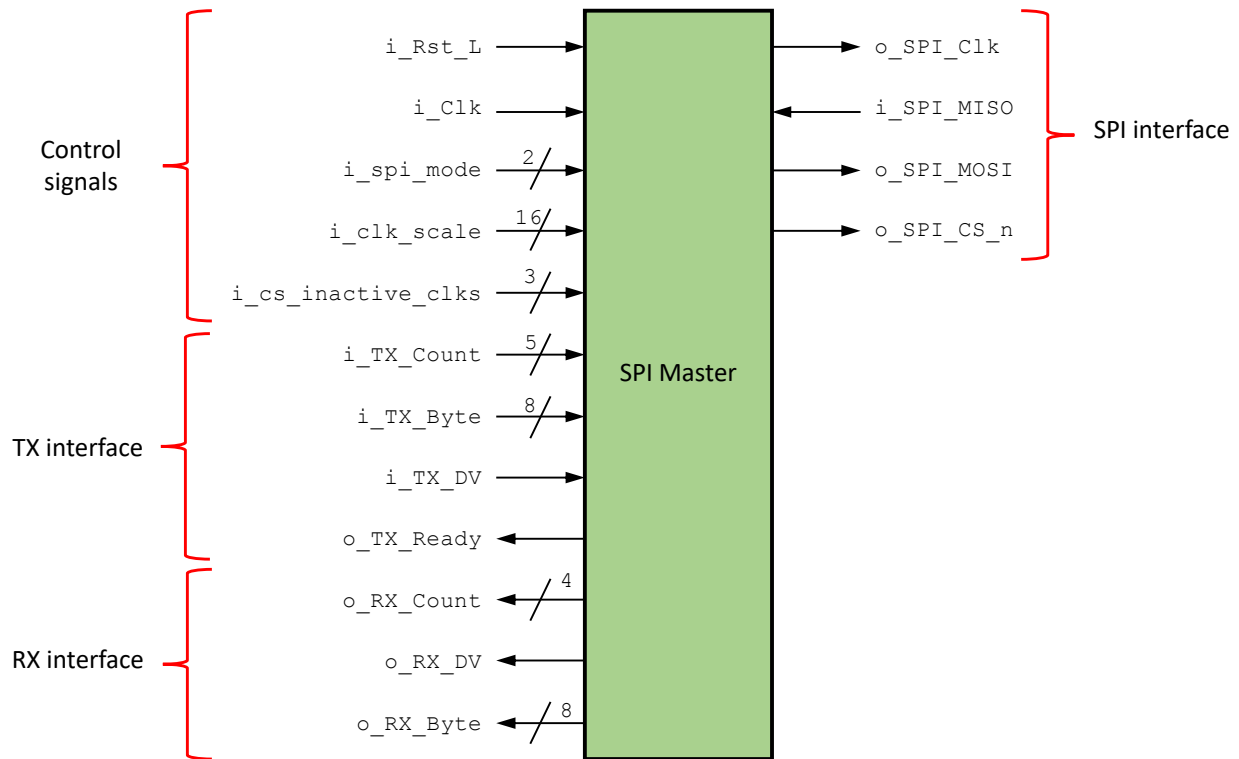

Figure 5: SPI Master
In this project, we will package a SPI master as an AXI-Lite IP block, and we will use it to interface with a 3-axis accelerometer. Figure 5 is a block diagram of the SPI master, which includes four signal groups: Control, transmitter (TX) interface, receiver (RX) interface, and SPI interface.